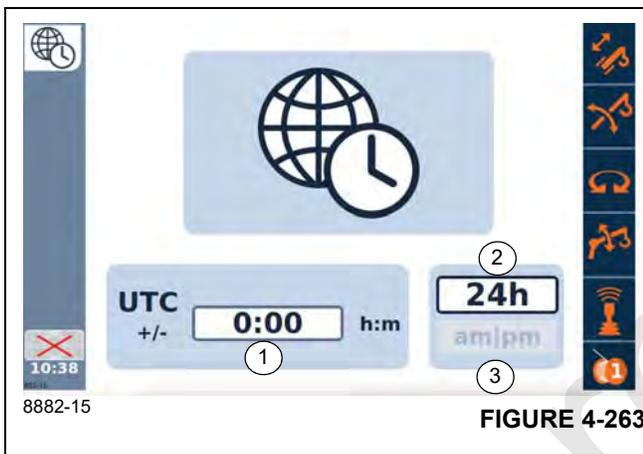

FIGURE 4-263
The Time Set function screen (Figure 4-263) allows the operator to set the time and the time format that is displayed on the ODM and RDM screens.
1. Using the Jog Dial or Arrow Buttons on the Navigation Control Pad, select the UTC Offset field (1), (Figure 4-263).
5. Using the Jog Dial or Arrow Buttons, select the Time Format field (2), (Figure 4-263).
7. Using the Jog Dial or Arrow Buttons, select the desired time format, either 24 hour or AM/PM (3), (Figure 4-263).